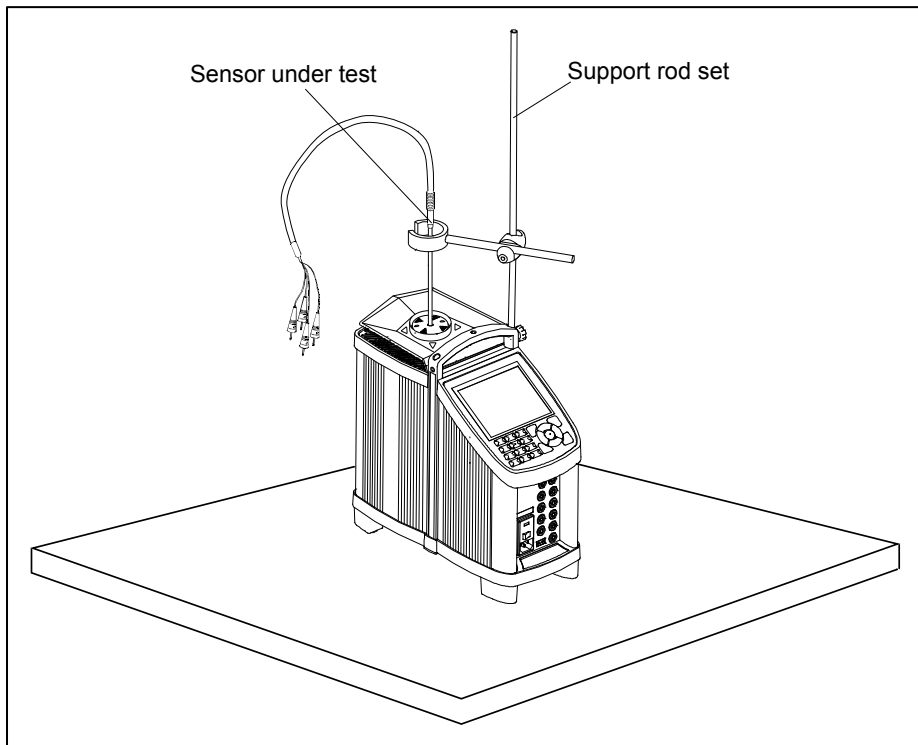

Fig. 5
- ⑨ Place the sensor to be calibrated vertically into the well. It is recommended to use the optional support rod set for a correct position during calibration. See fig. 5.